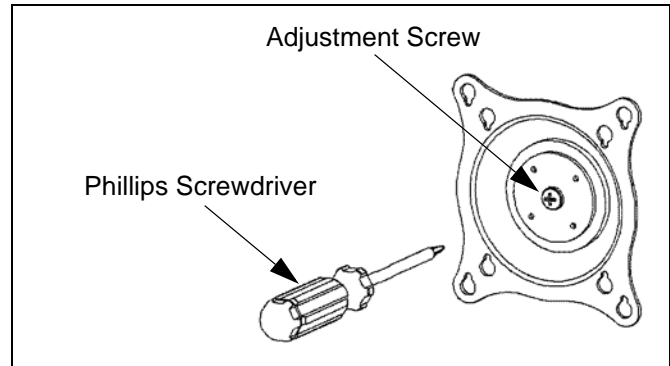

Figure 25: Single Display Adjustment
2. Using Phillips screwdriver, slightly loosen or tighten the adjustment screw as necessary (See Figure 25).